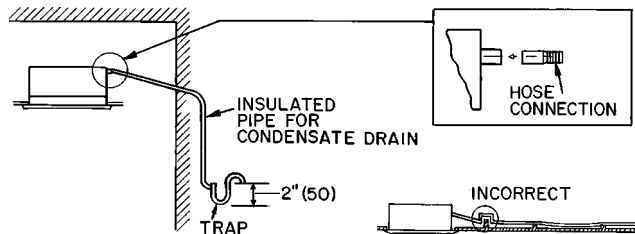

Fig. 10 — Drainage System
1. Connect drain line by inserting the field-supplied hose connector onto the condensate drain. Then place 1-in. rigid PVC pipe over the hose connector. See Fig. 10.
2. To ensure regular flow of condensate water, the drain pipe should be pitched toward open drain or sump at a downward slope. Refer to Fig. 10. Also, be sure that the line continually slopes with no rise or sags as shown in lower right-hand side of Fig. 10.
3. Provide a trap of a least 2 in. near the end of the drain line to prevent odors from entering rooms. Refer to Fig. 10.